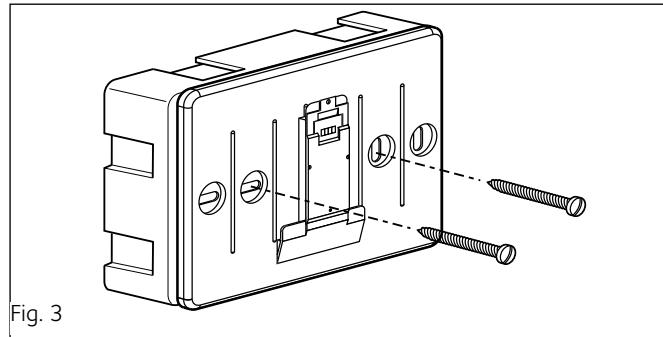

Fig. 3
- fix the base of the device to the box on the wall using the screws supplied in the kit (fig. 3);